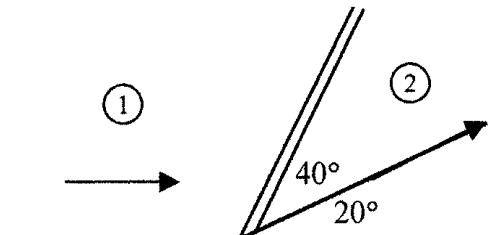

Fig. P9.124
**9.124** When a sea-level air flow approaches a ramp of angle  $20^\circ$ , an oblique shock wave forms as in Figure P9.124. Calculate (a)  $\text{Ma}_1$ ; (b)  $p_2$ ; (c)  $T_2$ ; and (d)  $V_2$ .